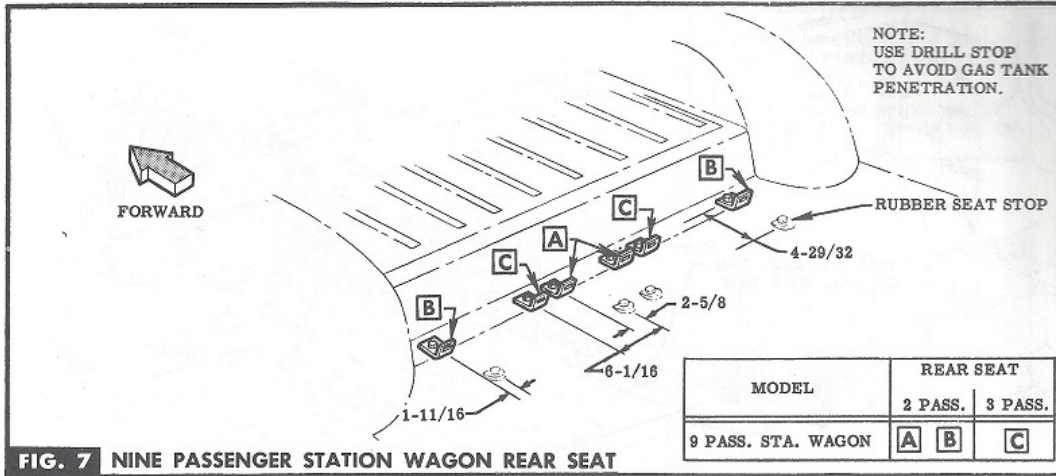

FIG. 7 NINE PASSENGER STATION WAGON REAR SEAT
STEP 13 DRILL 13/32 INCH DIA. HOLES THROUGH FLOOR PAN AS SHOWN BY DIMENSIONS IN FIGURE 7. SEE CHART FOR TWO AND THREE BELT INSTALLATION.